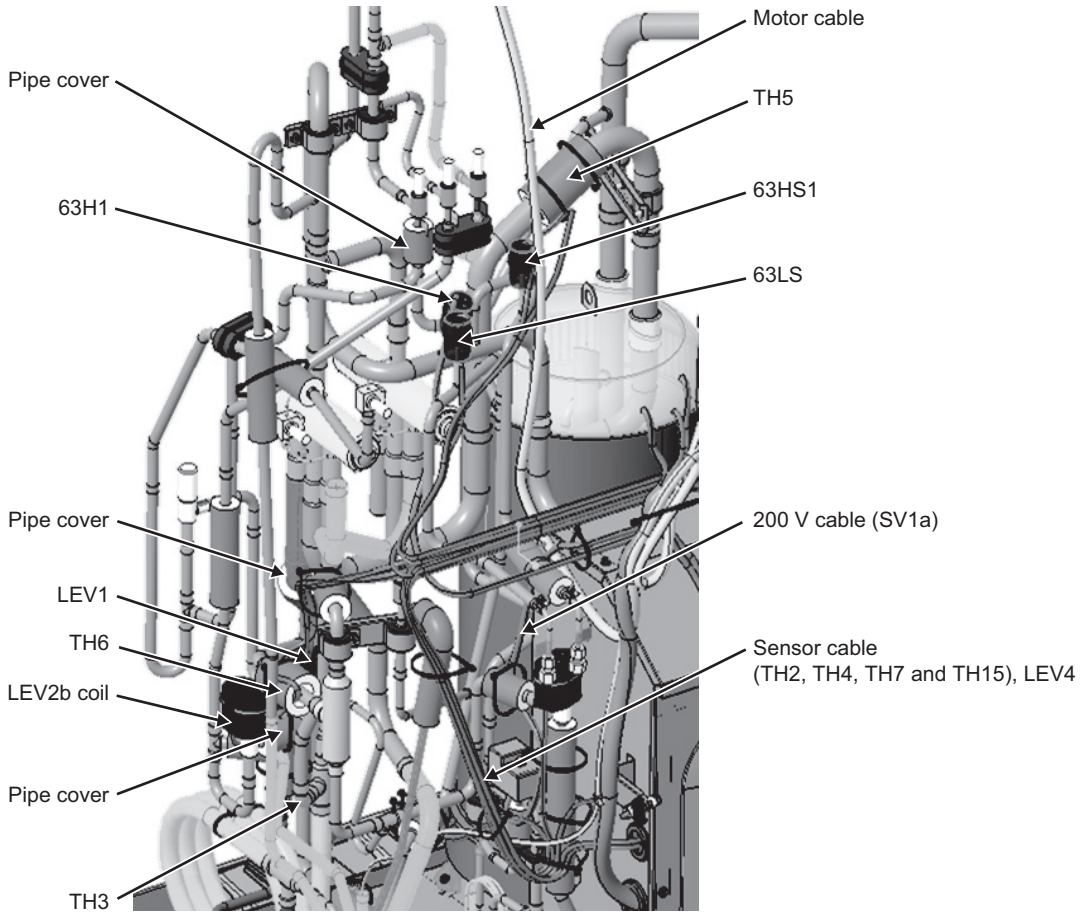
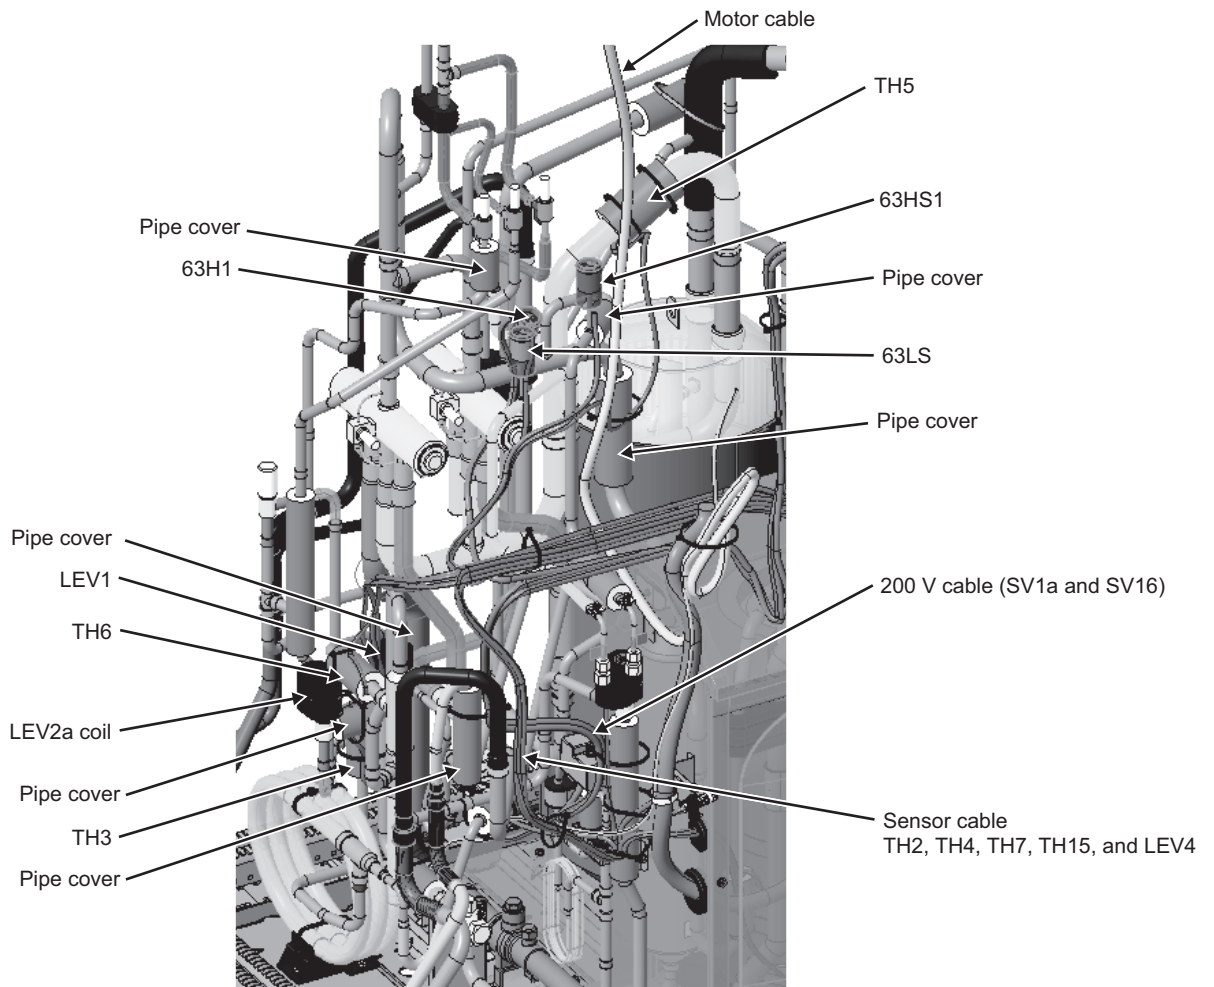

Fig. 3
Fig. 4
(2) When brazing the four-way valves or removing the brazing, protect the surrounding pipe covers and cables. (Fig. 3 and Fig. 4)